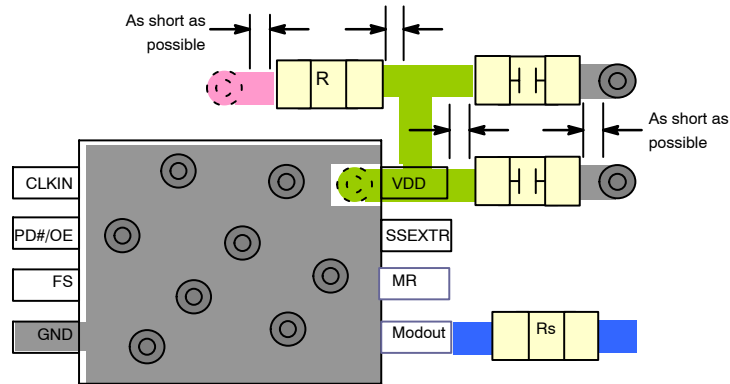

Figure 27.
- A typical layout is shown in Figure 27.